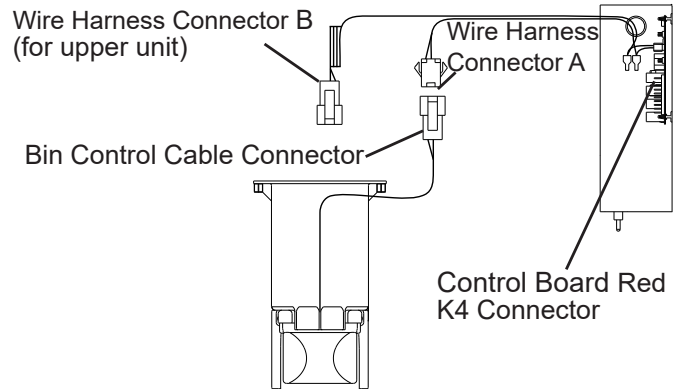

Fig. 4
- c. Use the thumbscrew removed in the previous step and the thumbscrew included in the accessory bag to secure the bin control assembly to the bottom of the icemaker. See Fig. 4.